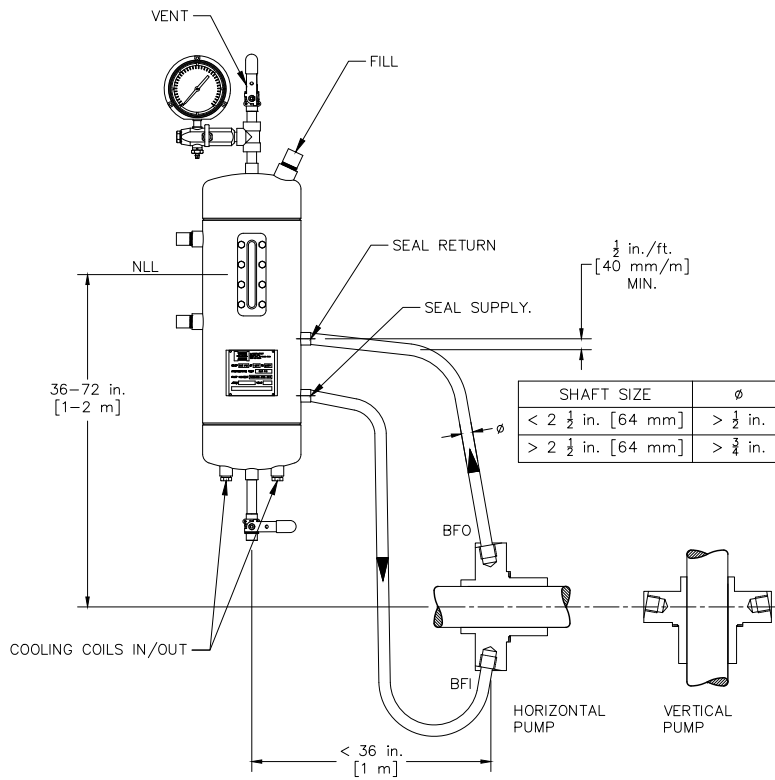

Figure 12: Typical Installation of a Buffer/Barrier Fluid Reservoir
1. Correctly make connections between the buffer/barrier fluid system and the mechanical seal according to the following specifications. In the case of a Piping Plan 52 or Plan 53A the SEAL SUPPLY connection (lower port) on the reservoir must lead to a buffer/barrier fluid in connection on the seal gland; the SEAL RETURN connection (upper port) on the reservoir must lead to a buffer/barrier fluid out connection on the seal gland. (Figure 12).